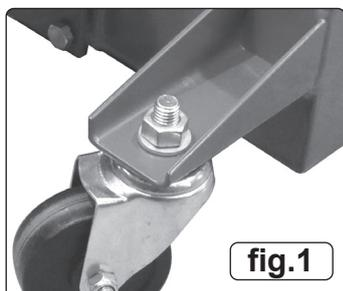

fig.1
- 4.1. **CASTOR WHEELS (fig.1).** Bolt a castor wheel to each of the projecting brackets either side of the handle mount using the M12 nuts and washers provided.